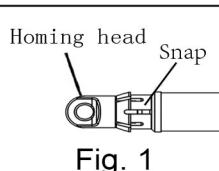

Fig. 1
① Tool required
② Use homing bead to help hose to thread through the inner tubes of frame (Fig. 1).